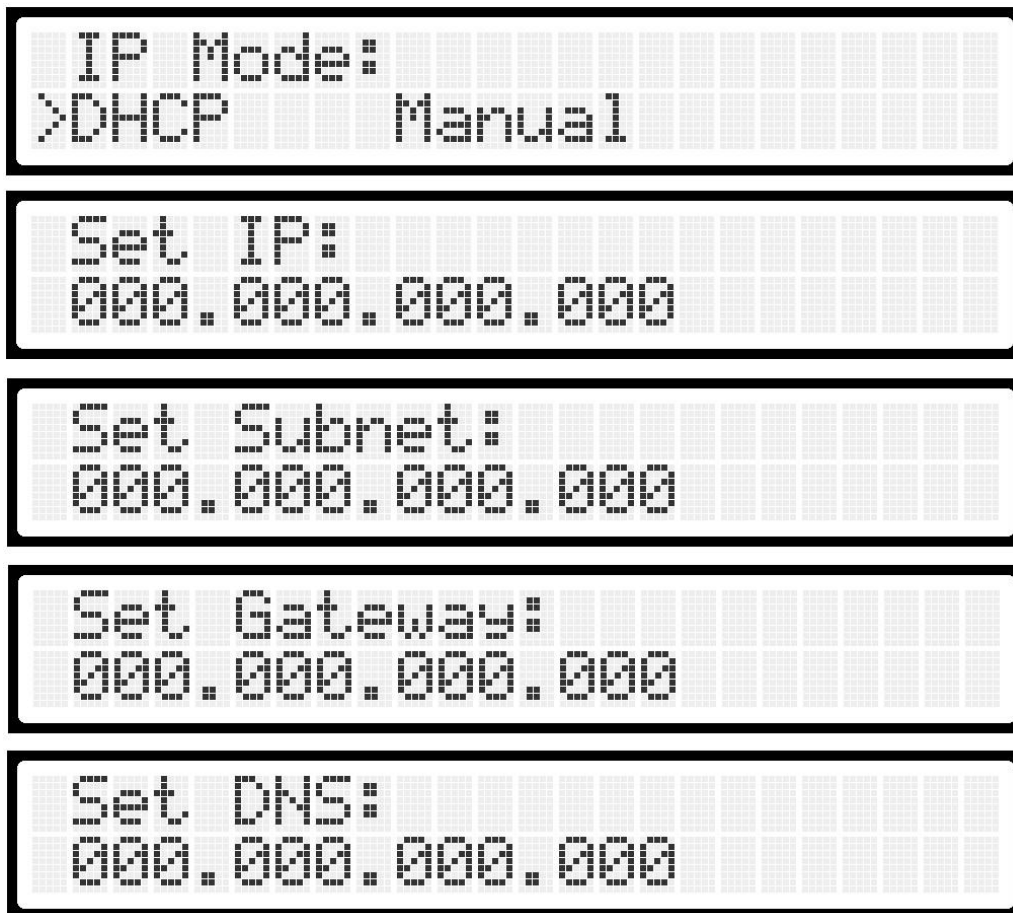

Figure 9: Select device network settings
- After setting the time, you will automatically enter the network settings menu (Network Parameters) and you will be faced with two options, DHCP and Manual. Use the UP and Down keys to select each of these modes. If you select the DHCP option, the device's IP will be assigned automatically through the DHCP server. If you want to set the IP of the device manually, select the Manual option and use the UP, Down and OK keys to enter the three parameters IP, Subnet and Gateway address as well as the DNS address of the network (Figure 9).